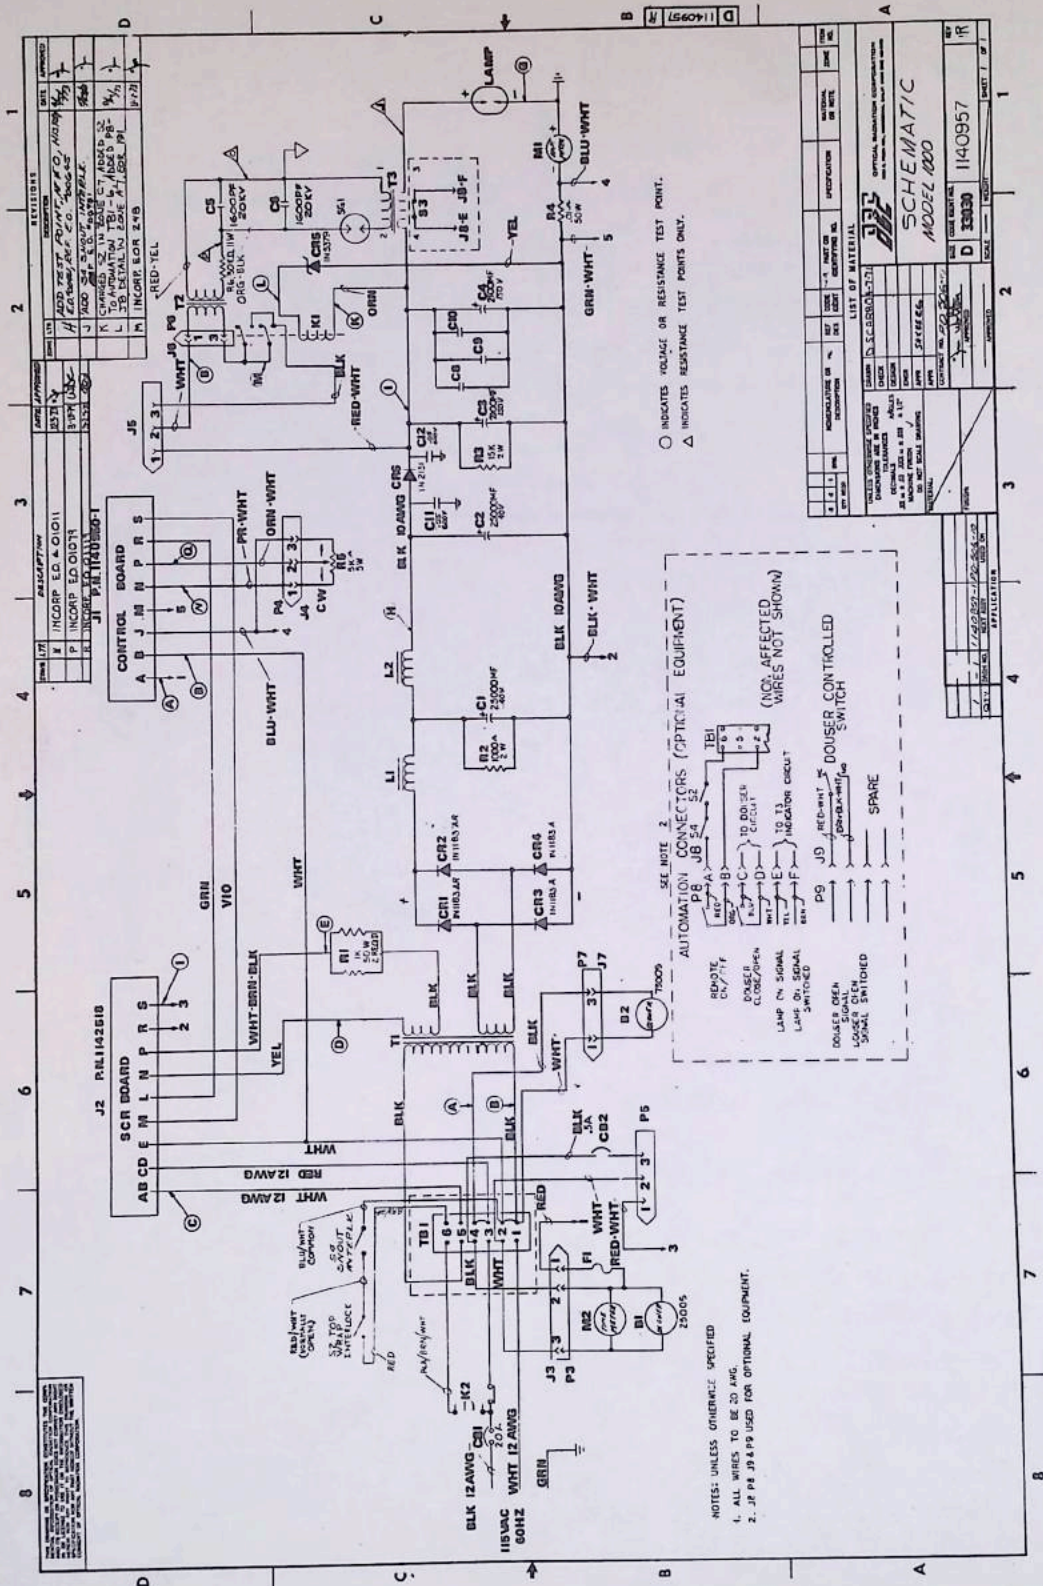

Figure 5-1. Wiring Diagram, Model 1000 Lamphouse
Whenever lamphouse fails to operate properly, consult wiring diagram, figure 5-1, Trouble Shooting Chart table 5-1, voltage chart table 5-2 and resistance test points table 5-3 as an aid in locating the possible trouble.
3.4 Shorted blocking diode (CR6).	3.4 Check voltage on both sides. See figure 5-1 and table 5-2.
Note: Refer to Schematic Diagram, Figure 5-1, for test points.
See schematic diagram, figure 5-1, for test points.